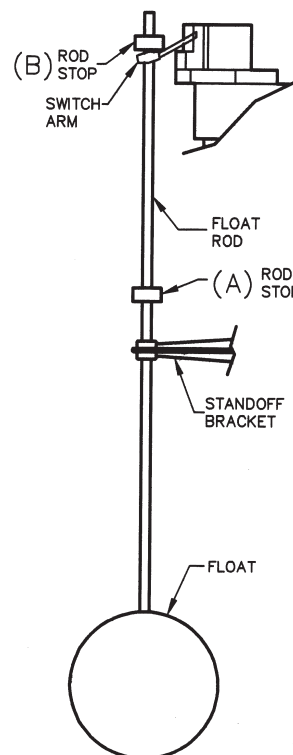

Figure 2 - Float rod start and stop
9. Float rod stop setting: (refer to figure 2)